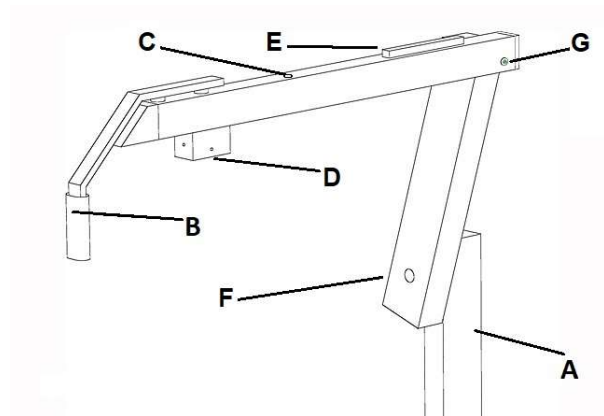

Figure 10: Physiologically inclinable phoropter arm
- Physiologically inclinable phoropter arm (Figure 10).